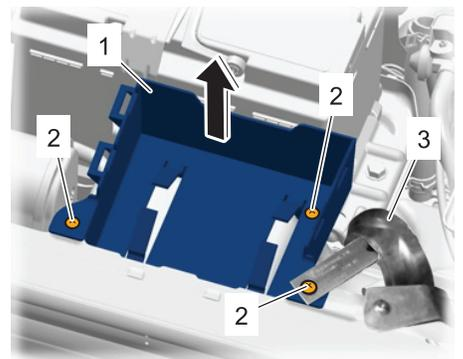

Fig. 4 Compressor holder removal
5. Remove screws (2), **Fig. 4**.
6. Move alarm siren (3) with connected line aside, **Fig. 4**.
7. Pull holder (1) for compressor straight up and remove it, **Fig. 4**.